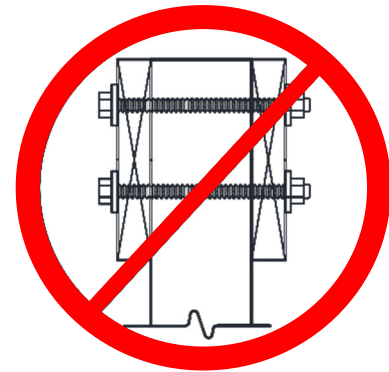

Figure 18: Prohibited Connection
- Beams shall not be attached to the sides of an un-notched post as shown in FIGURE 18.